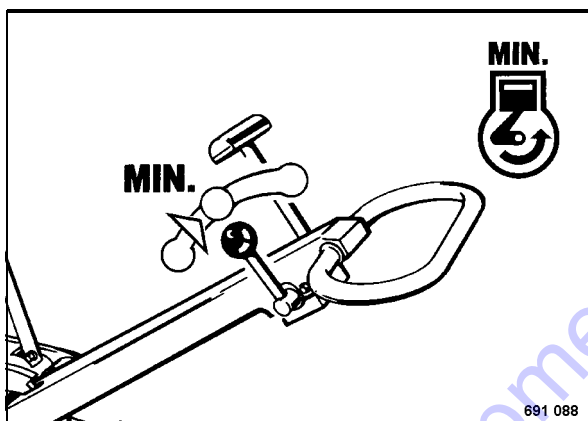

Fig. 13
- Shift the throttle lever (Fig. 13) to idle speed position "MIN".